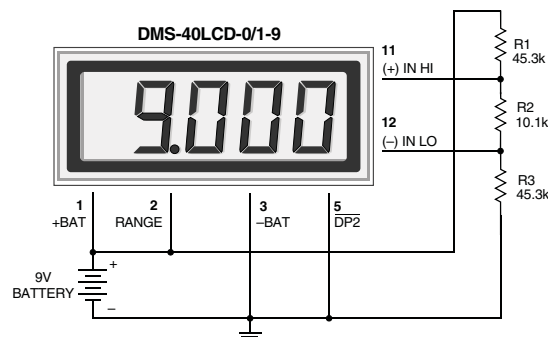

**Figure 8. Power Supply Monitor
6. Power Supply Monitoring: A popular application for DATEL's low-power LCD meters is monitoring the supply voltage in battery-operated portable equipment. Figure 8 demonstrates how a 9V-powered DMS-40LCD can be used to monitor its own supply. The meter used is the DMS-40LCD-0/1-9 configured for its $\pm 2V$ input range (pin 2 connected to pin 1). A three-resistor voltage divider is used to attenuate the battery voltage and also to satisfy the requirement that the input voltages applied to pins 12 and 11 be at least 1.5 Volts above and below the battery voltage applied to pins 1 (+BATTERY) and 3 (-BATTERY). The divider should be designed so that 1/10th the battery voltage falls across the inputs to the meter.